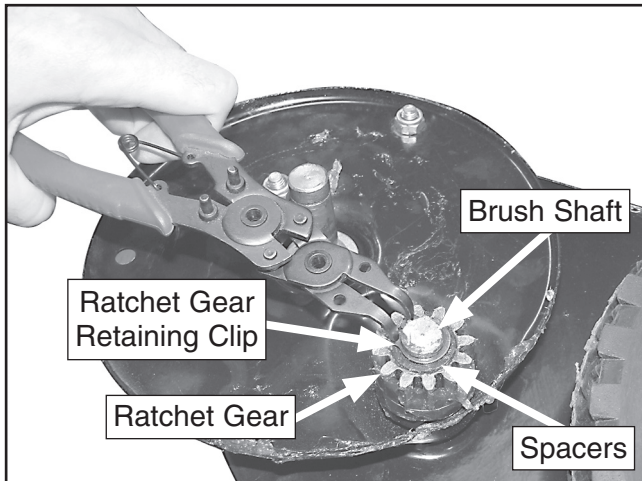

Figure 24. Ratchet gear assembly.
2. Remove the retaining clip from the brush shaft, then remove the spacers (**Figure 24**).